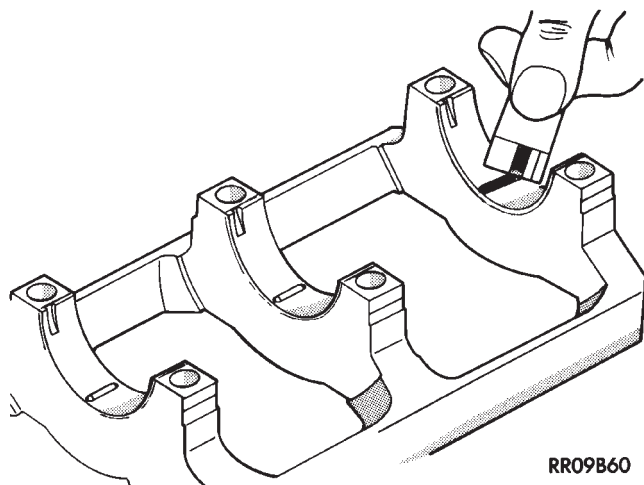

Fig. 16 Measuring Clearance
(5) Carefully remove the bearing cap and measure the width of the plastigage at the widest part using the scale on the plastigage package (Fig. 16). Refer to Crankshaft Specification Chart for proper clearance. Also see Measuring Main and Connecting Rod Bearing Clearances in Standard Service Procedures.